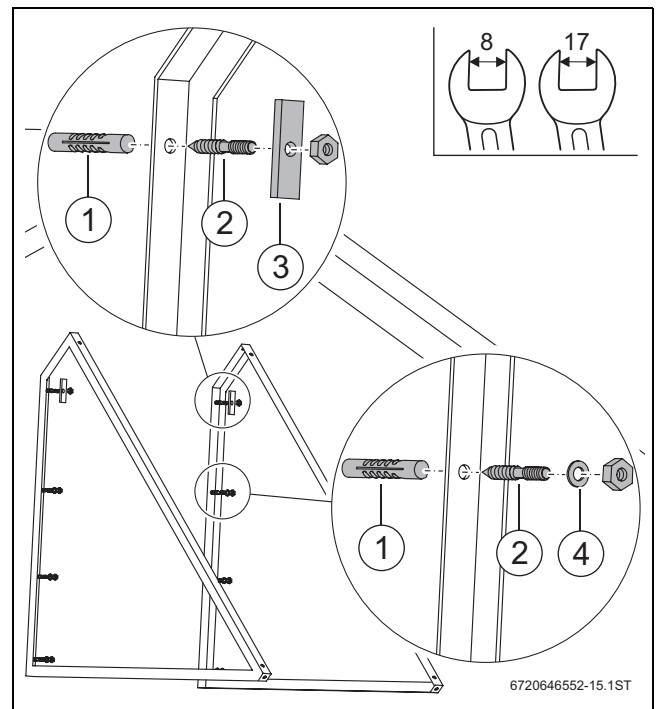

Fig. 23
- ▶ At the top fixing point, install the support plate in place of the washer (→ Fig. 23 [3]).